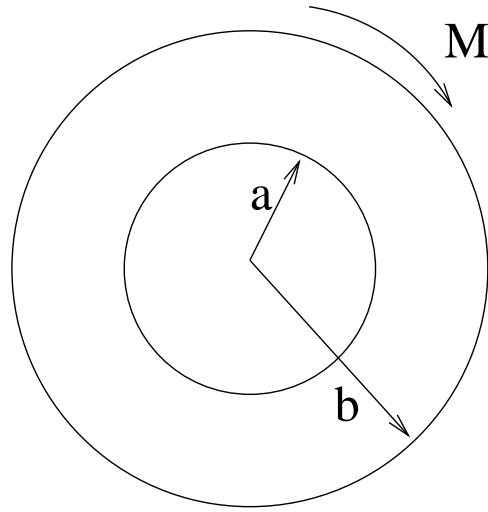

Figure 2: Hollow cylinder of length L fixed at the inner boundary $r = a$, and subjected to a moment M at the outer boundary $r = b$.
2. If (γ_1, \mathbf{n}_1) , (γ_2, \mathbf{n}_2) and (γ_3, \mathbf{n}_3) denote the eigenvalue/eigenvectors of $\boldsymbol{\tau}$, find the eigenvalue/eigenvectors of $\boldsymbol{\epsilon}$, where $\boldsymbol{\tau} = \lambda(\text{tr } \boldsymbol{\epsilon})\mathbf{I} + 2\mu\boldsymbol{\epsilon}$. (25)
3. We saw in the test that the solution to the problem shown in Fig. 2 is given by $\tau_{r\theta} = c/r^2$, where $c = M/(2\pi L)$, with other stress components zero. Using the stress-strain and strain-displacement relations (it is given that the compatibility relations are satisfied), and assuming $u_z = 0$, and (u_r, u_θ) to be independent of z , find the displacement field (u_r, u_θ) . (15)
4. A plane stress solution for bending by an end load P of the curved beam (40)